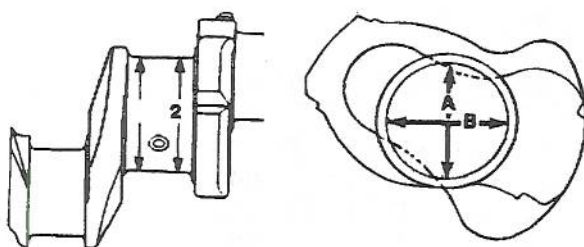

Figure 5-62. Main Bearing Journal Measurement
- (9) Check connecting rods for cracks or scoring. If scratched or scored, connecting rods must be replaced.
- (10) Check bearings (10). If worn or damaged, bearings (10) must be replaced.
- (11) Measure inside diameter of bushing (6). Calculate clearance between bushing (6) and pin (2) (as measured earlier). If clearance exceeds figure prescribed by table 6-1, bushing (6) and/or piston pin (2) must be replaced.
- (12) Using flaw detector, inspect crankshaft (1) for cracks and scratches. If cracked, crankshaft must be replaced.
- (13) Measure main journals at two locations, as shown in figure 5-62.
- (14) If out-of-round (difference between measurements A and B in figure 5-62) or taper exceeds figure prescribed by table 6-1, journal will have to be reground to a standard bearing undersize.